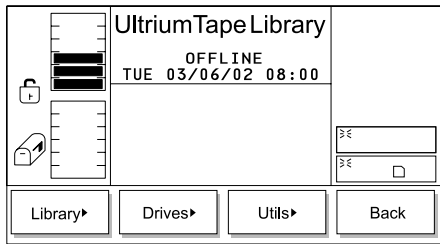

Figure 151. Setup Menu
2. Press the button below the **Setup** softkey. The Setup Menu displays (see Figure 151 on page 130).
- To return to the Setup Menu (see Figure 151 on page 130), press the button below the **Back** softkey.